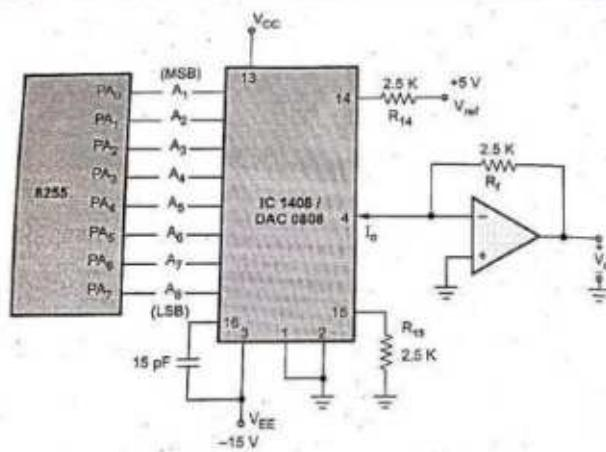

Fig. 6.3.2 Typical circuit for IC 1408/DAC0808
- Fig. 6.3.2 shows a typical circuit for IC 1408/DAC0808. The output current  $I_o$  can be given as,
Therefore, the output voltage is + 5 V. In this way, circuit shown in the Fig. 6.3.2 gives output in the bipolar range.